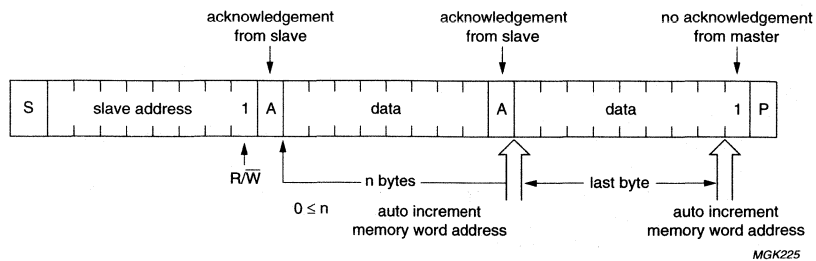

Fig.17 Current Address Read.
If the master wishes to read more than one byte (Sequential Read), it generates an Acknowledge (A = 0) after receiving the data byte, and does not generate a Stop. Any number of bytes can be read with this procedure; the address pointer will wrap-around to address 00H when the highest address is read. To end Sequential Read, the master generates a No-acknowledge (A = 1) and a Stop (P). Figure 17 illustrates the Current Address Read and Sequential Read procedure.